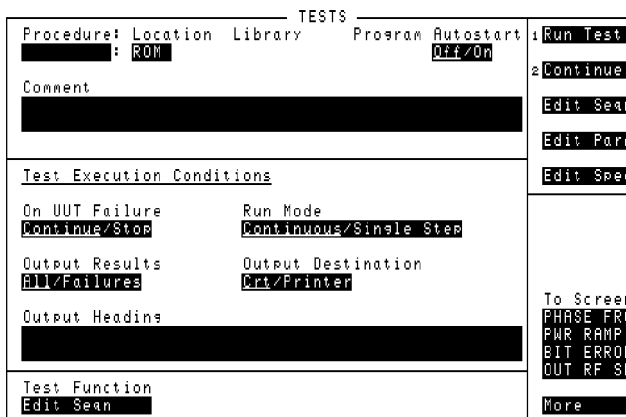

Figure 8-11 The Main TESTS Subsystem Screen
*Refer to Figure 8-11 on page 8-28.*